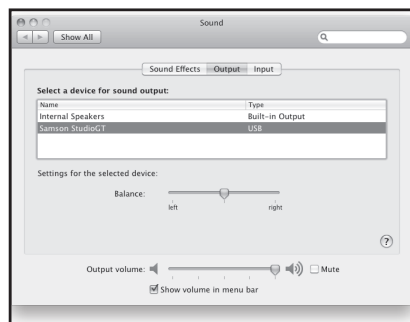

Figure 13
5. Next, click in the Output tab and select Samson StudioGT. You may notice that the Volume slider sets itself to the full level. This will allow you to have full range using Studio GT's hardware Volume control (Figure 13).